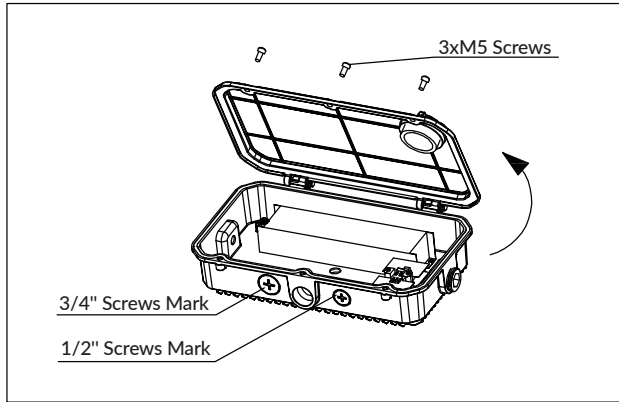

Figure 7
- Open the Driver Box by removing the three M5 screws on the cover (Figure 7).